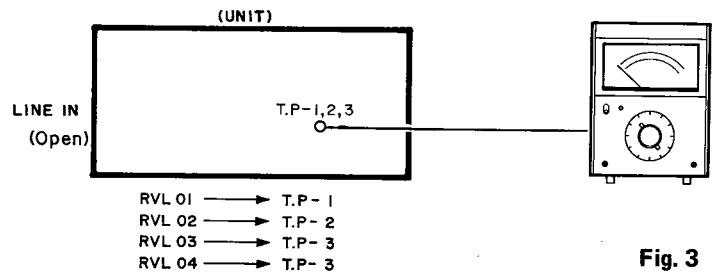

Fig. 3
1. Set the LINE IN open, switches and controls on the unit as shown in Fig. 3, 4.